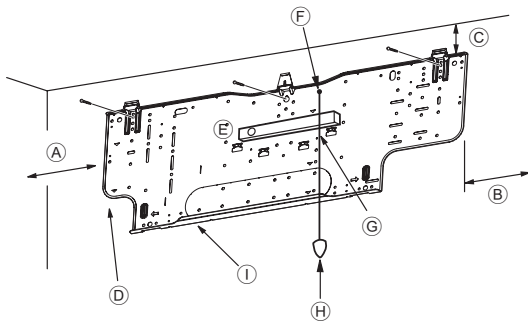
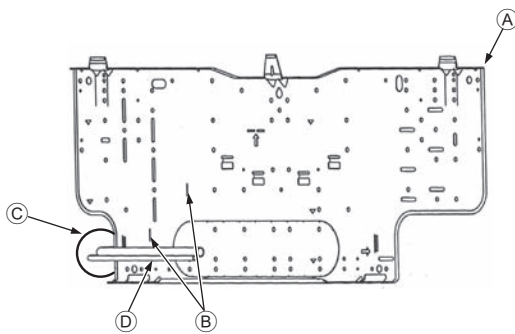

Fig. 3-4
Fig. 3-5
■ PKFY-P-VHM-E (Fig. 3-4)
- Ⓓ Fixing screws (4 × 35) ②
- Ⓘ Mount board ①
3.3. When embedding pipes into the wall (Fig. 3-5)
- Ⓐ Mount board ①